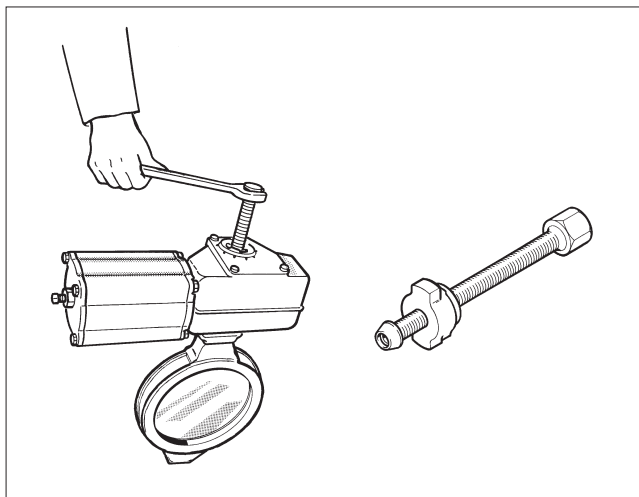

Fig. 16 Actuator removal, B1 series
- Detach the actuator using a suitable extractor. The correct tool can be ordered from the manufacturer (see Fig. 16).